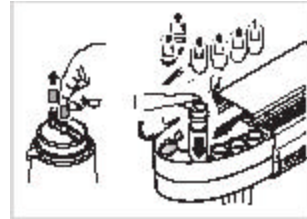

**Figure 6**
3. Open the carriage door (pull out, then up) and remove the cartridge. (Figure 6)